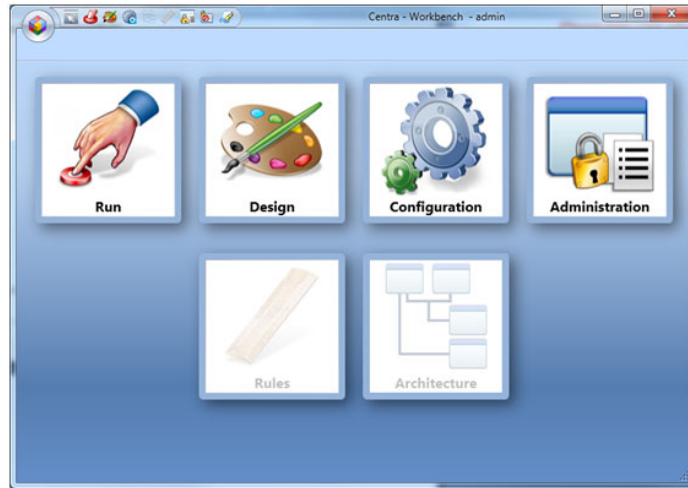
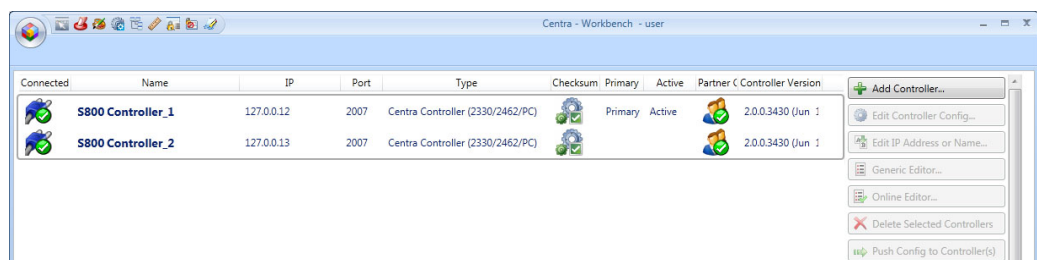

Figure 37 Workbench
Figure 38 Workbench Controller Screen
9. Click on the Configuration button (green and grey gears, see Figure 37) to open the Controller Configuration screen shown in Figure 38
- When using dual Nucleus controllers, the Active status column (Figure 38) shows whether the controller status is Active, Inactive or Unknown.